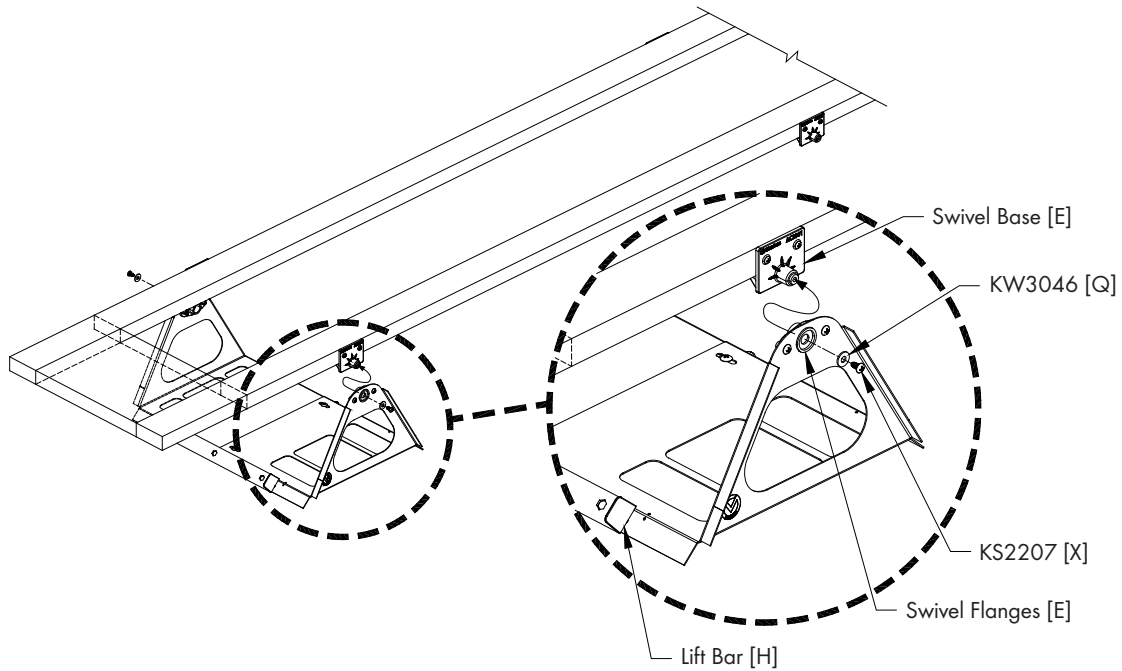

Figure 7
Take 1 of the Carrier Arm Assemblies and carefully pull the sides out to slip the Swivel Flanges [Y] over each pair of Swivel Bases [E] and attach using (2) KS2207 Screws [X] and KW3046 Washers [Q]. See Figure 7.